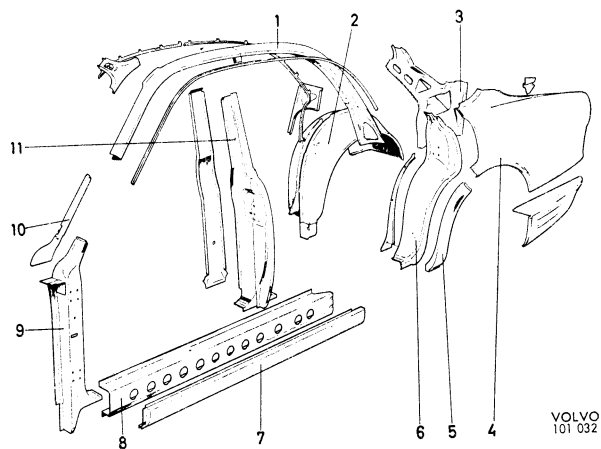

Fig. 3. Side section (4-door)
On 4-door models the side section (Fig. 3) consists of the front pillar (9), intermediate pillar (11), rear pillar (6), intermediate and outer cantrails (8 and 7), roof former (1), windscreen pillar (10), rear wheel arch (2) with wheel arch member (5), rear mudguard (4), back plate and joining plate (3). The cantrail and wheel arch member are manufactured of galvanized sheet metal.